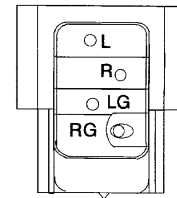

Figure 2
2. Use needle-nose pliers to connect the colored wires from the tonearm headshell to the corresponding pins on the cartridge. See Table 1 and Figure 2.